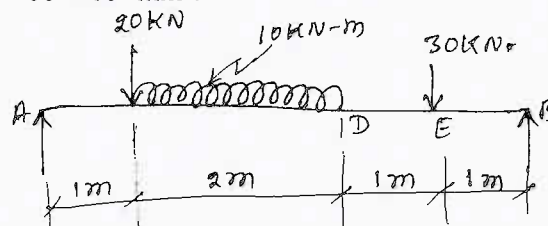

Fig.Q.7(b)
- b. Determine the deflection at points C, D and E in the beam shown in the Fig.Q.7(b). Take  $E = 200 \text{ kN/mm}^2$  and  $I = 60 \times 10^6 \text{ mm}^4$ . (10 Marks)